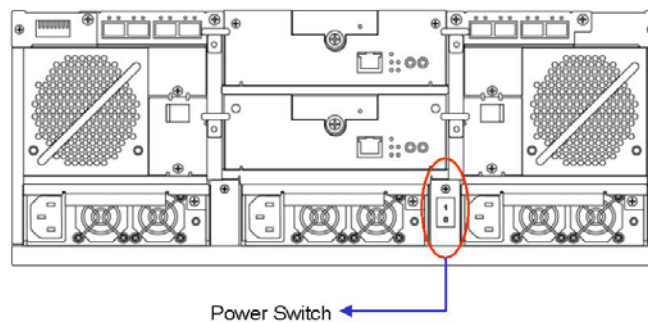

Figure 4-9: Power Sockets and Power Switch
- Turn the power switch on. (See **Figure 4-9**) One (1) power switch controls all PSUs.